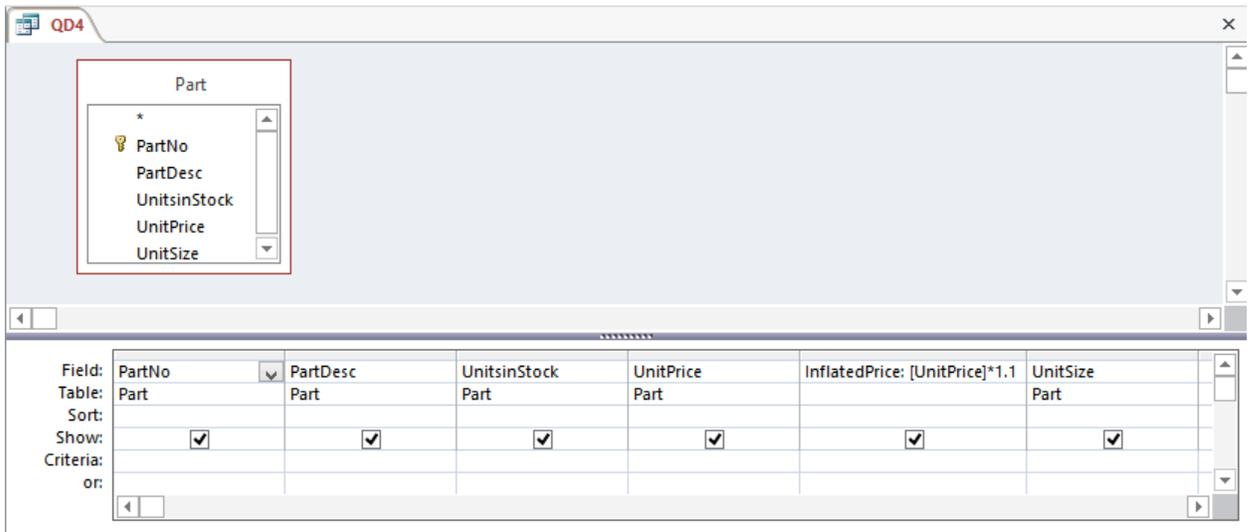

Figure 21: Completed "QD4"
When you are finished, click **OK**. Your *UnitPrice* field in design view should now appear as Figure 21. If you scroll in the cell, you can see the entire expression that you typed.
2. Open the Query Design Window: Next, open “QD5” in design view. It should appear on your screen the same as “QD4” (refer back to Figure 21).